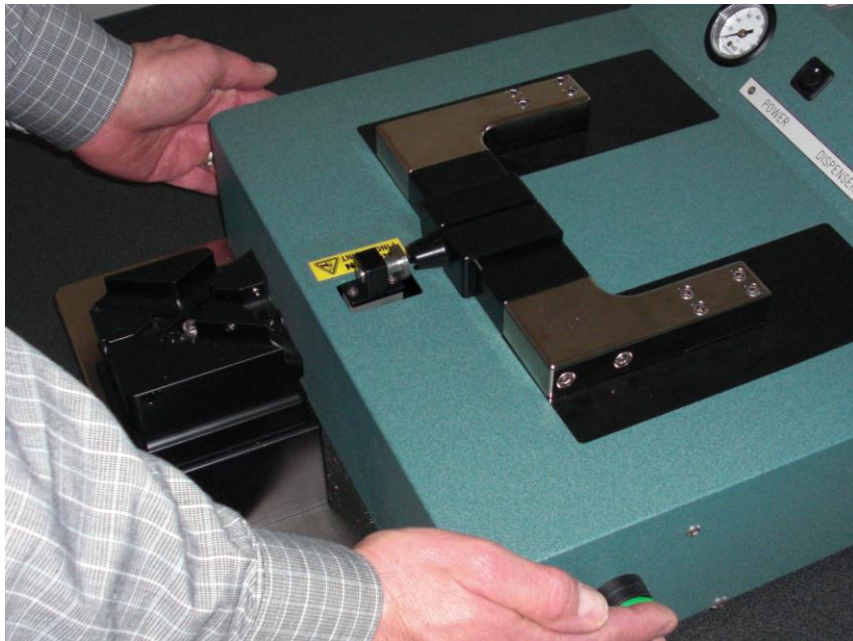

Figure 9: Semi-open position
- After removing fitting and tubing, press palm switches again. Hold until jaws return to semi-open position, and stop gate comes up. (Figure 9)